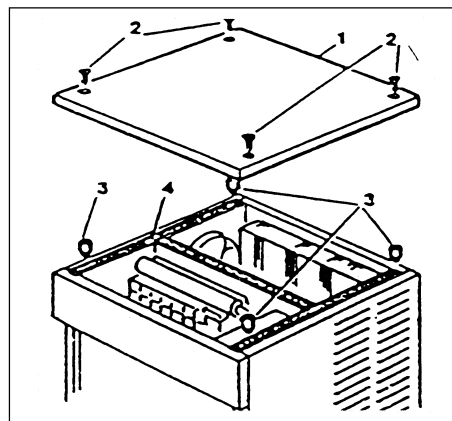

Fig.2
2. Remove the cover and the 4 bushes (No.3) of the lower ice maker (Fig. 2), then apply the support gaskets No.4.